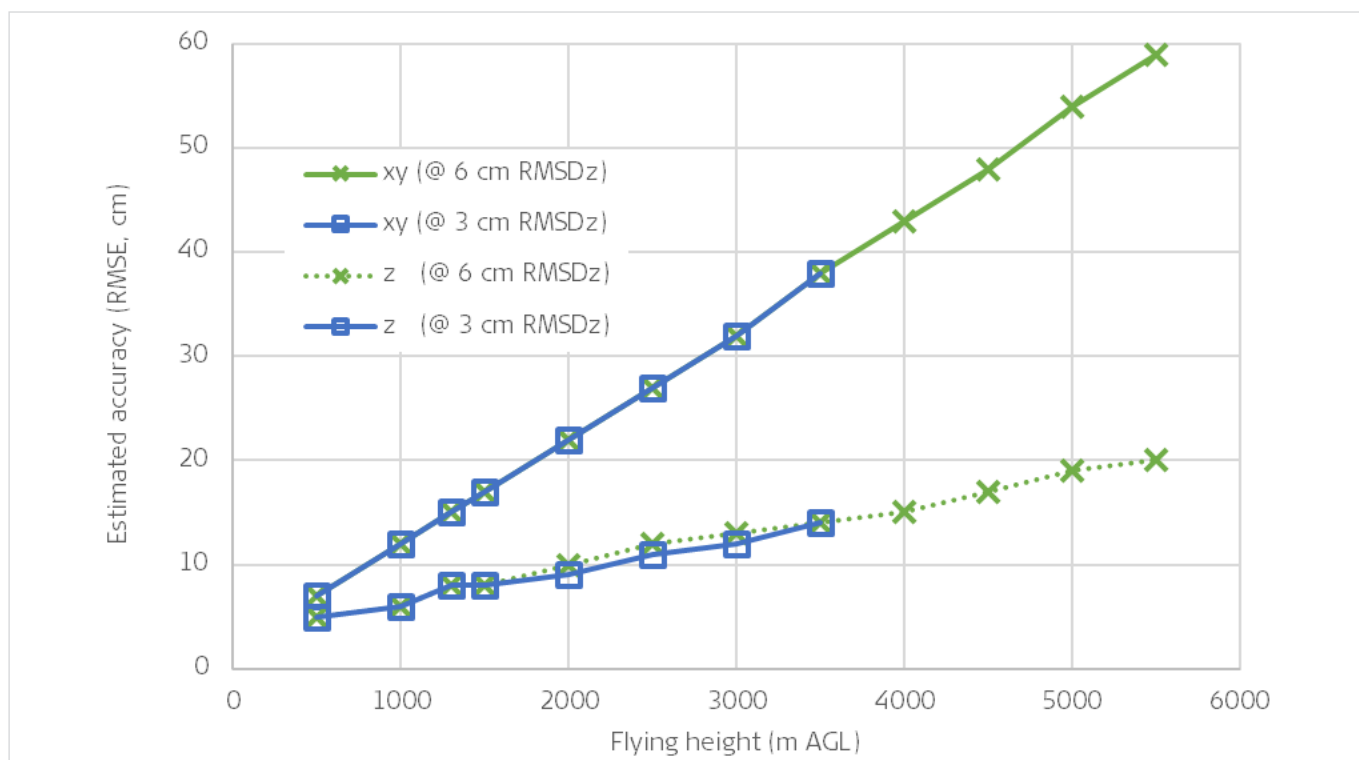

Fig. 8: Estimated accuracy (system level, including GNSS/IMU error).
**Accuracy:** The system produces data after post-processing with a lateral placement accuracy of 7 –59 cm and vertical placement accuracy of 5 -20 cm (one standard deviation) from full-field-filling targets of 10% diffuse reflectivity or greater with atmospheric visibility of 23.5 km or better for flying heights up to 5500 m AGL and a nominal FOV of 40 degrees at generated surface smoothness settings 3 and 6 cm, as shown in Figure 8. Accuracy estimates for various flying heights above terrain are shown below and can be provided in detail by using the AeroPlan mission planning template. Estimates below are made assuming a 40-degree FOV, CNUS5-H IMU and a nominal 5 cm GNSS error. Note that the accuracy estimates below and provided by AeroPlan are conservative, and typical vertical accuracy of < 5 cm is achieved at a nominal flying height of 1000 m AGL.